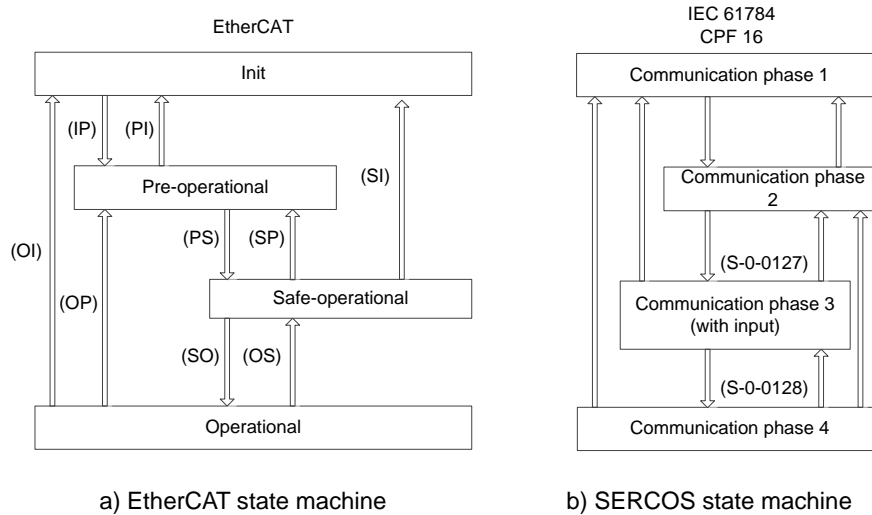

Figure 7-29 SoE state machine
A comparison between the communication phase of the SERCOS protocol and the EtherCAT state machine is shown in the Figure 7-29. The SoE state machine is featured as follows:
- 6) The SERCOS protocol only allows switching down from the advanced communication phase to communication phase 0, whereas EtherCAT allows any state switching down (as shown in a) in Figure 7-29. For example, switching from the operational state to the safe operational state or from the safe operational state to the pre-operational state. The SoE should also support this switchover as shown in b) in Figure 7-29. If the slave does not support this switchover, set the error bit in the EtherCAT AL state register.